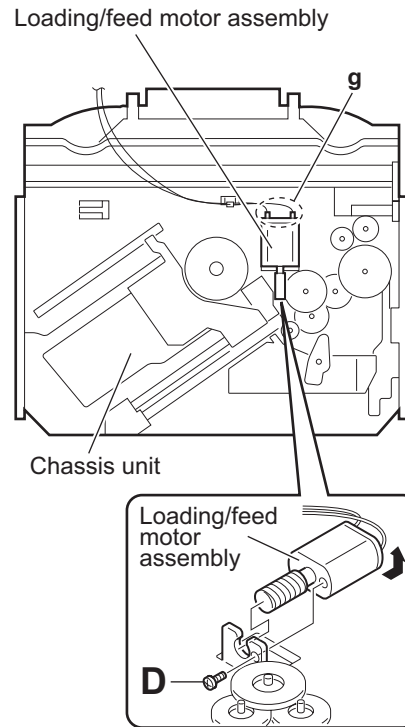

Fig.9
3.1.6 Removing the loading/feed motor assembly (See Fig.9)